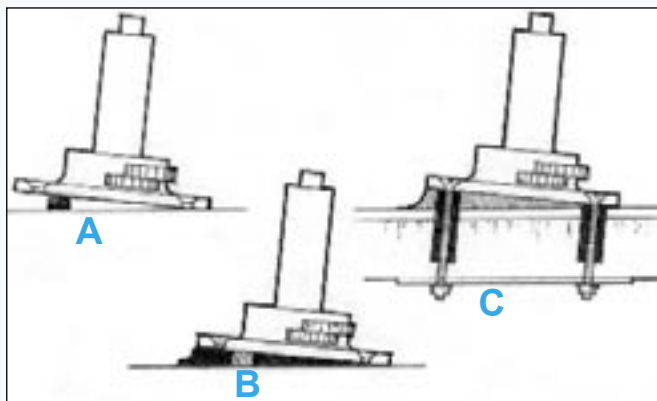

Figure 19 Support the base in position with blocking - apply enough thickened epoxy to fill the void.
2. Bond small blocks to the substrate to support the base at the desired height and position (e.g., winch base, *Figure 19"A"*).
4. Place the hardware in position, resting on the blocks (*Figure 19"B"*) and install the fasteners.
5. Smooth the excess epoxy into the desired fillet shape around the base (*Figure 19"C"*). Allow the epoxy to cure fully before loading. Protect exposed epoxy from UV. (see *finish coating page 29*).